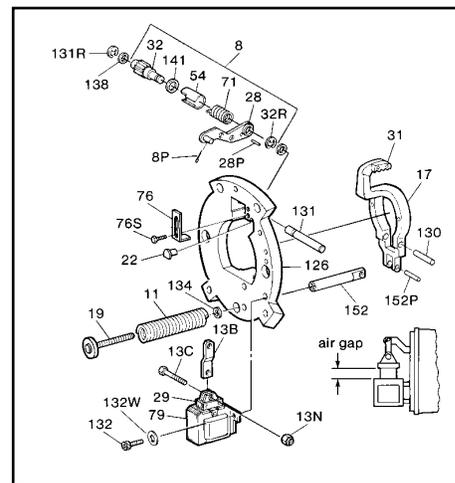

Figure 6
G. Reassemble friction disc (be sure friction discs slide freely), spring (if vertical), stationary discs, and pressure plate in correct sequence and position. All parts must slide freely. The universal mounting pressure plate presently used has three tapered reliefs on outboard face. However, some older brakes used a pressure plate with a single tapered relief marked top, which must be installed with relief facing manual release rod (146).
H. Mount support plate assembly, torque screws to 50 in-lbs in endplate. Conical spring washer installed under the screw head. Flat washer used under the conical spring washer only with aluminum support plate. Be sure that assembly is mounted with the solenoid in a vertical position (plunger above frame) as shown when brake is horizontal. If release rod (146) is not in manual release position and has allowed the mechanism to overadjust, it will have to be reset before mounting support plate. In this case, the lever arm (17) throat will be near, or touching, the pinion (32) teeth. Refer to Figure 6 and *Self-Adjust Maintenance*. Loosen pressure spring cap screw (19) until pressure spring (11) is free, mount support plate assembly to endplate and retighten spring cap screw until snug. Do not overtighten! Torque to a maximum of 8 ft-lbs.
C. Self-adjust maintenance (See Figure 6)